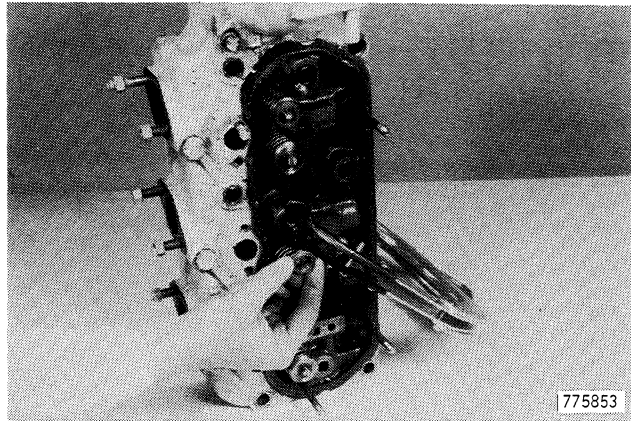

Figure 127
- 5. Install collar on valve stem, Figure 127.